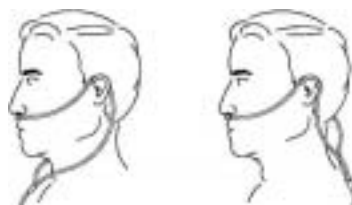

FIGURE 5.1 Cannula Placement
NOTE: For this procedure, refer to FIGURE 5.1.
- Place the cannula over your ears and position the prongs in your nose as instructed by your Health Care provider or cannula manufacturer. Refer to FIGURE 5.1.